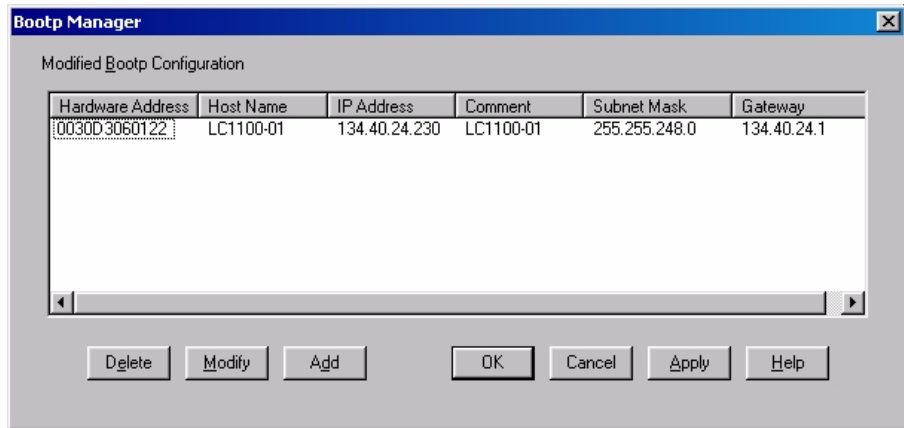

Figure 22 Bootp Manager
- 8 Select *Configure -> Bootp Manager*. All entries made above are shown in Figure 22 on page 34.